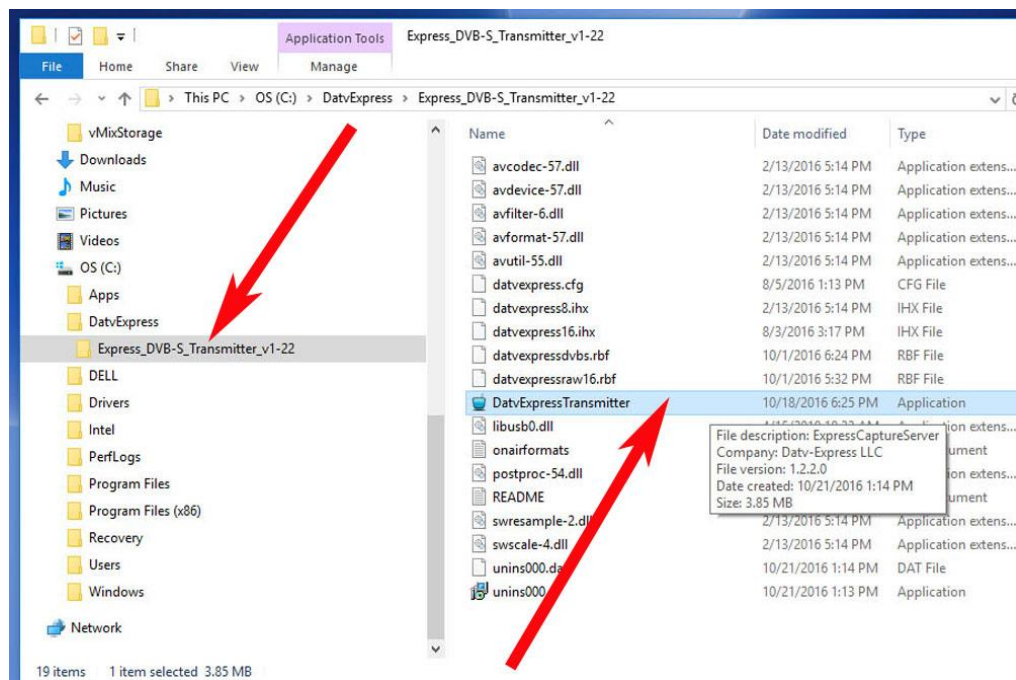

Figure 10 – The SET-UP.exe should be allowed to default to installing software inside a Directory called DatvExpress (see left arrow)
- When SETUP.EXE has finished, the Windows root directory should look like **Figure 10** with a ROOT-directory folder called **DatvExpress** containing the folder for the software that is named **Express-DVB-S_Transmitter**.
- The new EXE file for the Express_DVB_Transmitter software is the file named “DatvExpressTransmitter.exe” (see right arrow in **Figure 10**).